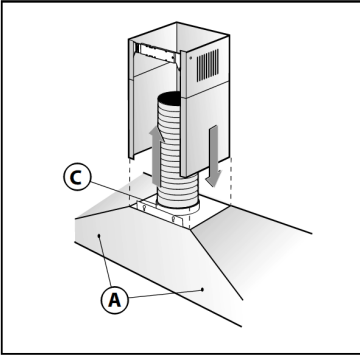

Fig.3
- Fix the appliance to the wall and align it in horizontal position to the wall units. When the appliance has been adjusted, definitely fix the hood using the screws A (Fig.3). For the various installations use screws and screw anchors suited to the type of wall (e.g. reinforced concrete, plasterboard, etc.).